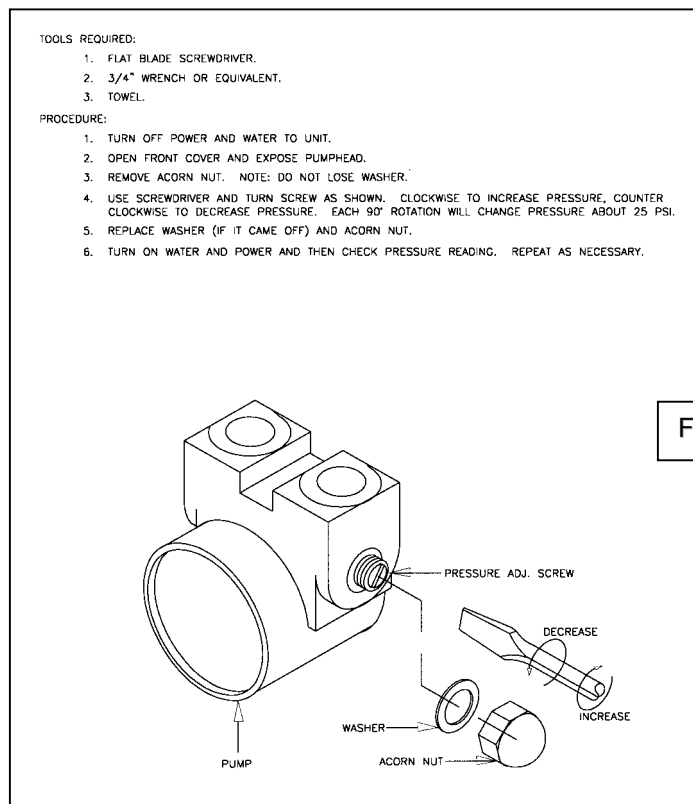

Figure 1
9. Slowly turn the operate/flush valve to the operate position. Pump pressure should not exceed 200 PSI. If 200 PSI is exceeded, adjust pump pressure on pump head located inside the cabinet. See instructions in Figure 1 below: